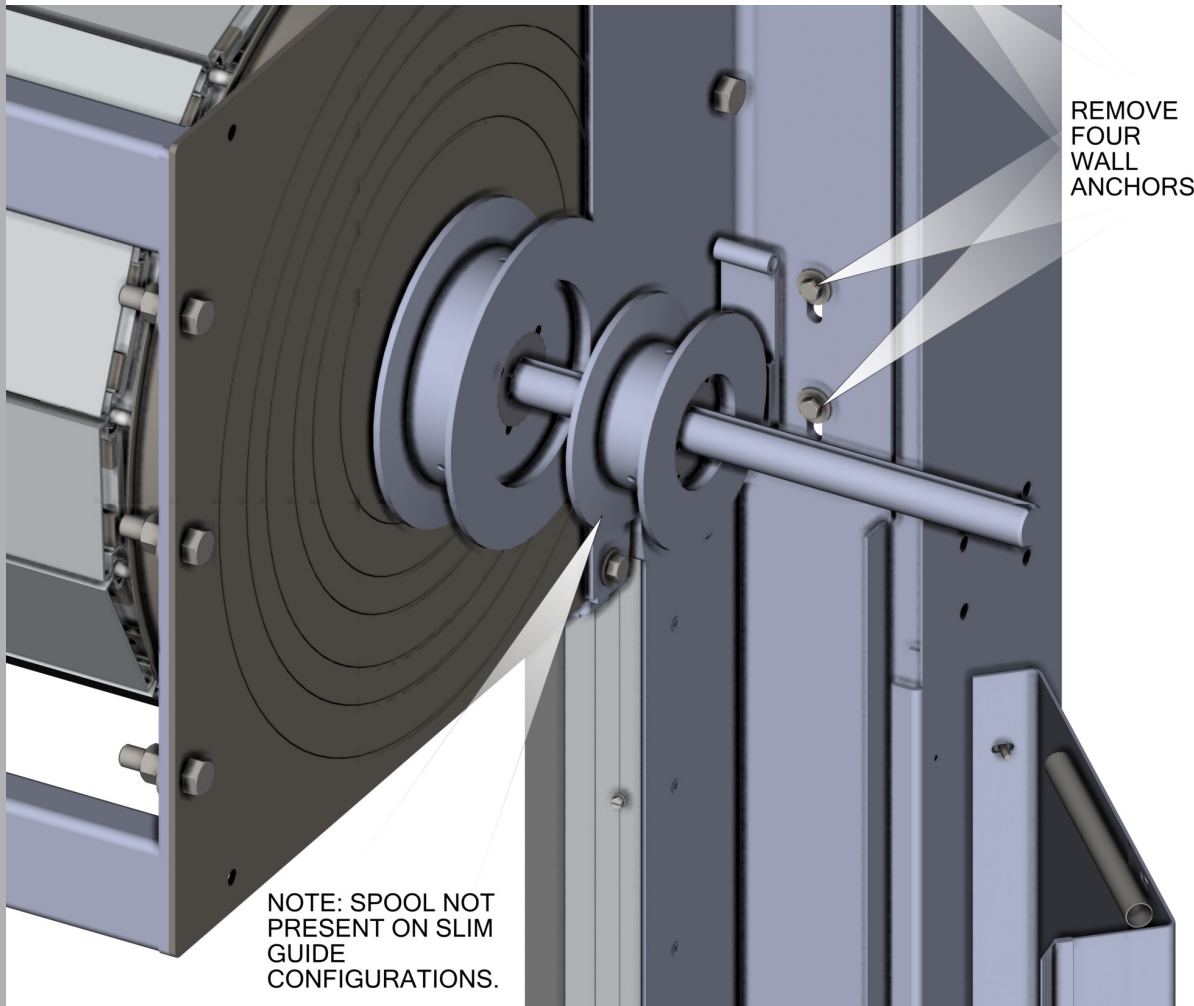
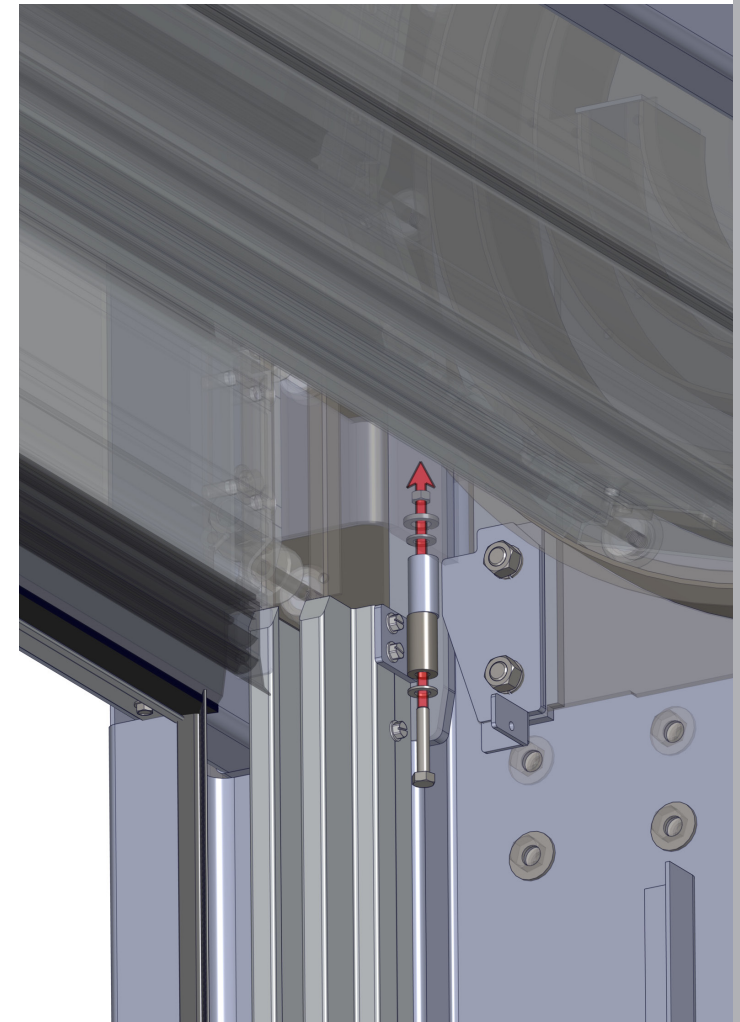

FIG 5.0
FIG 5.1
5. Place a lifting device under the header. Remove the top 4 wall anchors in the guides and set the aside, as shown in **FIG 5.0**. Next, remove alignment pin and set the aside, as shown in **FIG 5.1**. Remove the header and set aside.